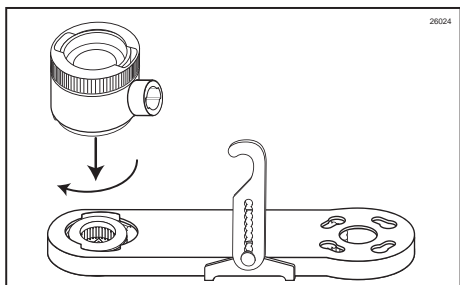

Figure 133
- Install the Injector Head onto the Drive Assembly Gear Box and rotate off-center to secure. (See Figure 133.)